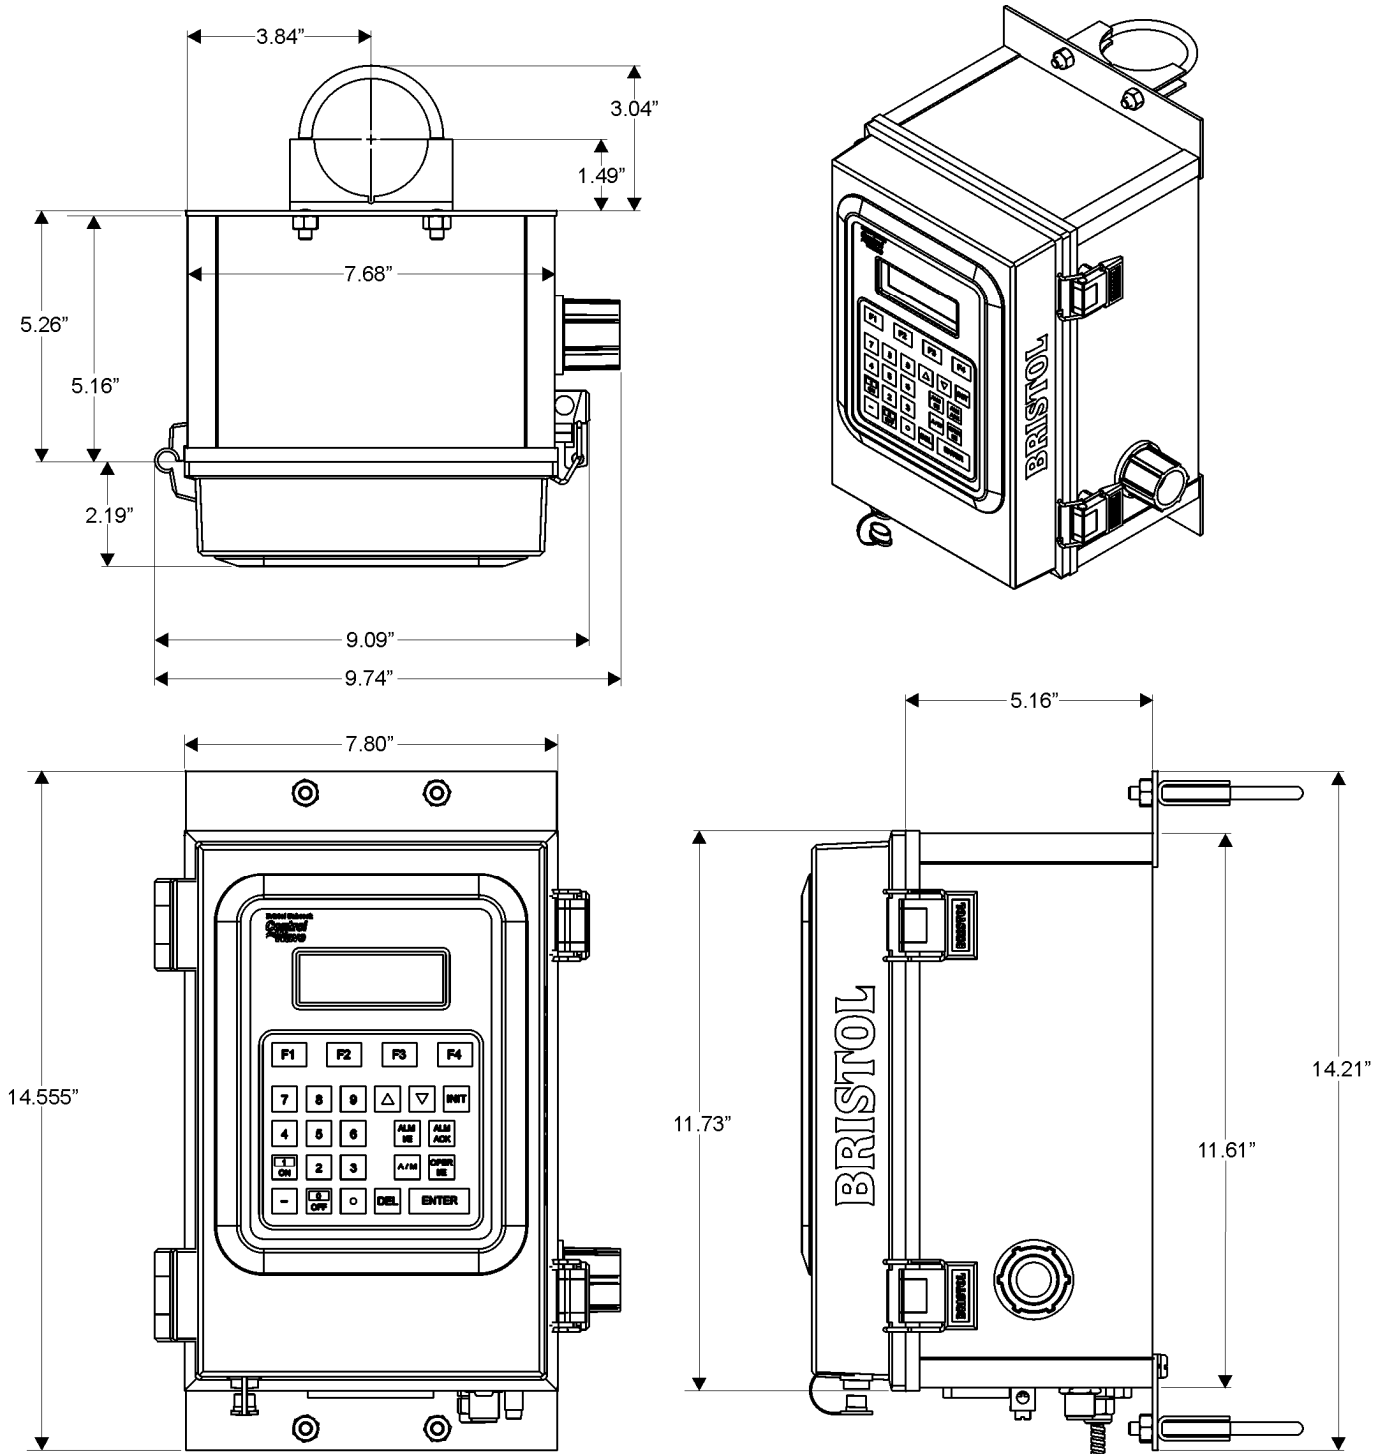

Figure 2-2. ControlWave ExpressPAC NEMA 3R Enclosure Dimensions
When choosing an installation site, check all clearances. Ensure that you can open the ControlWave ExpressPAC cover (hinged on the left side) for wiring and service. If present, make sure the optional display/keypad is accessible and visible. See *Figure 2-2* for a dimensional drawing of the NEMA enclosure.
- You must position the ControlWave ExpressPAC vertically. See *Figure 2-2* for enclosure dimensions.